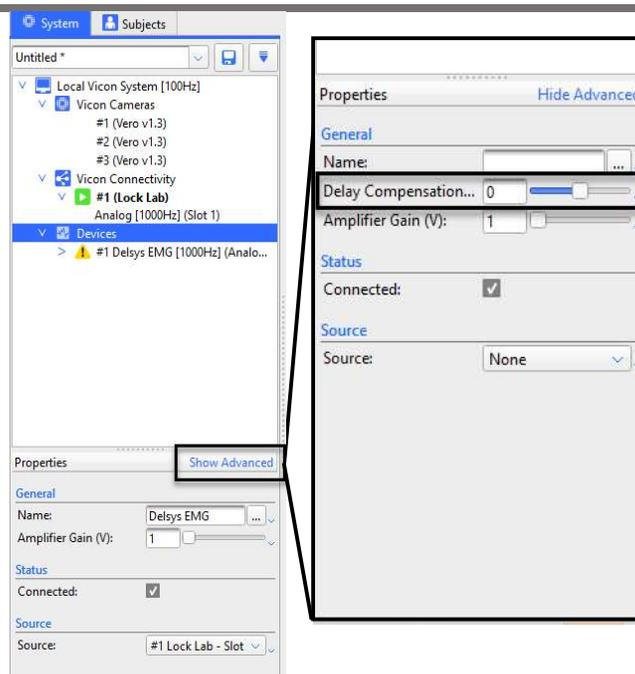

Figure 19: Compensating for analog signal time delays.
- Time shifts can be implemented to compensate for delays associated with analog integration. Select the Delsys EMG device and expand the *Show Advanced* window from the Properties section. Adjust the Delay Compensation as necessary (Figure 19).